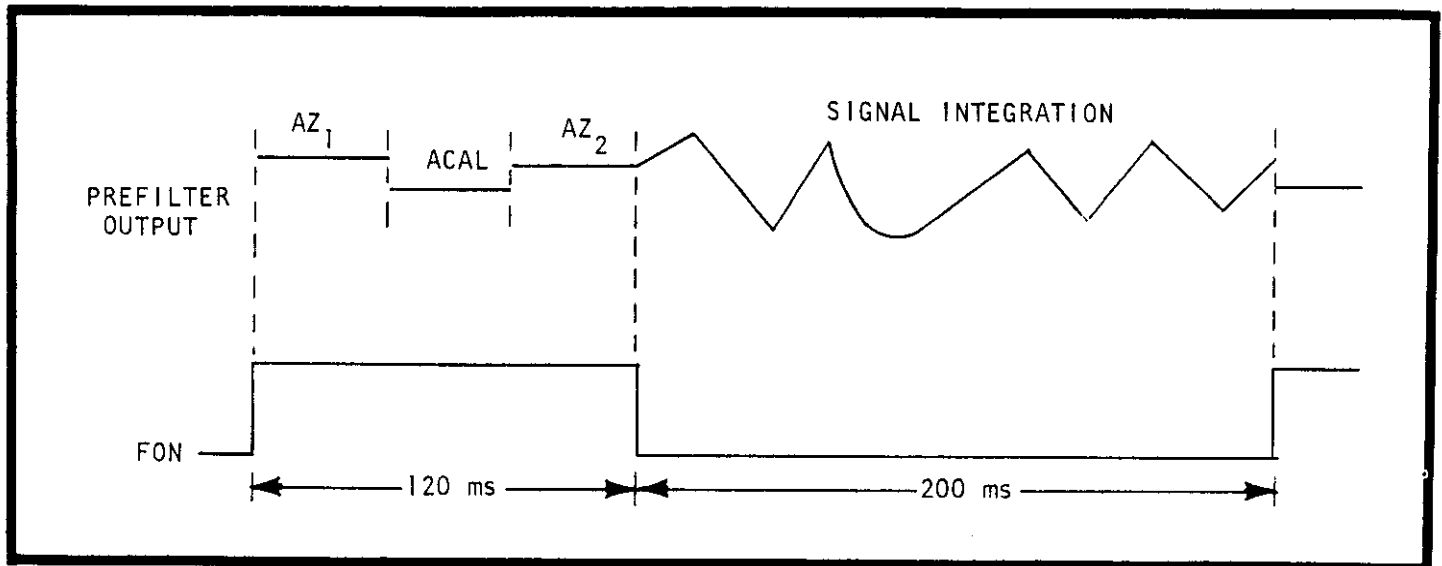

FIGURE 38. Waveform For A/D Calibration
- f) For the following adjustment refer to the trace shown in Figure 38.